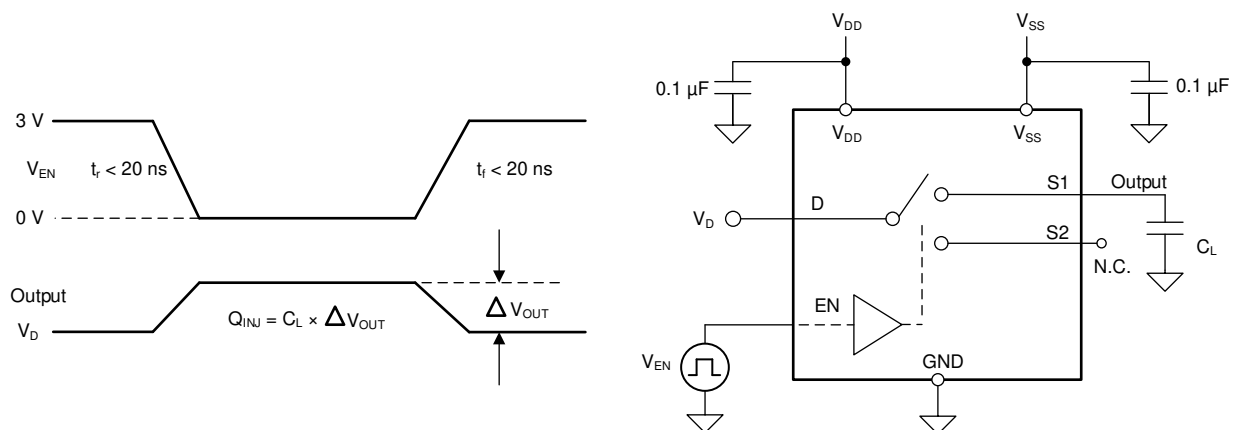

图 6-9. Charge-Injection Measurement Setup
The TMUX6219 has a transmission-gate topology. Any mismatch in capacitance between the NMOS and PMOS transistors results in a charge injected into the drain or source during the falling or rising edge of the gate signal. The amount of charge injected into the source or drain of the device is known as charge injection, and is denoted by the symbol  $Q_C$ . 图 6-9 shows the setup used to measure charge injection from source (Sx) to drain (D).